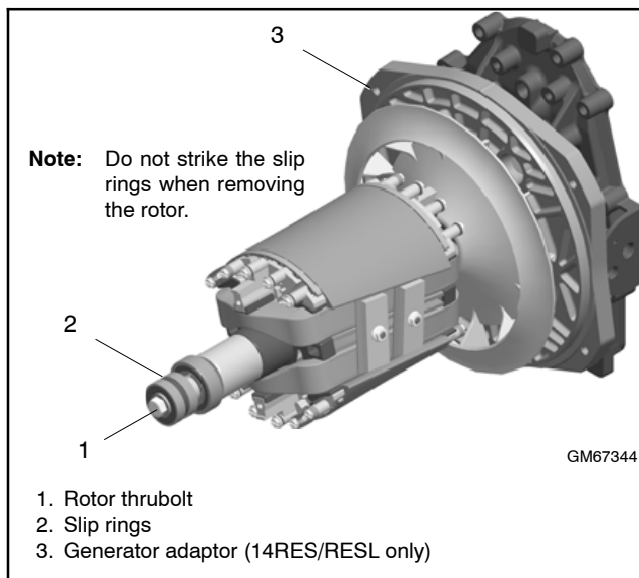

Figure 6-17 Rotor Assembly with Thrubolt
- a. Loosen but do not remove the rotor thrubolt. Use a strap wrench on the rotor to keep the rotor from turning during loosening, if necessary. See Figure 6-17.
- b. Loosen the rotor assembly by striking the side of the rotor with a soft-faced hammer to loosen it from the tapered crankshaft fitting. See Figure 6-17. Rotate the rotor and strike it on alternate sides until it can be rocked slightly back and forth.